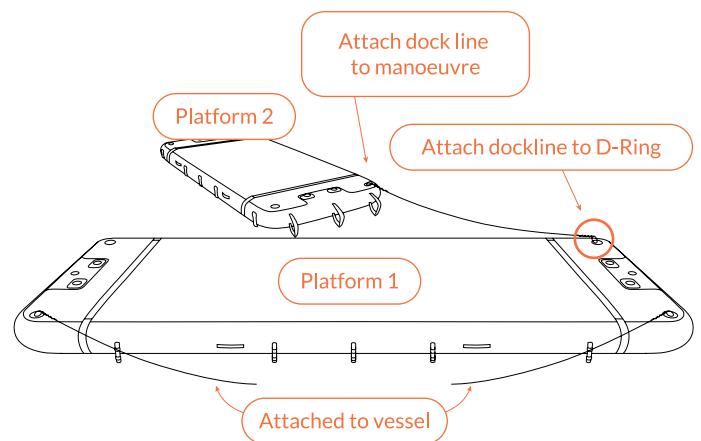

Fig 89 – Platforms secured to each other via a D-rings
2. Manoeuvre Platform 2 to Platform 1 (which is tied to the vessel). Holding on tightly to the dock line that is attached to the D-ring manoeuvre and secure to Platform 1 D-ring using a Bowline (Fig 89), Allow enough length in the line for the Platform to be connected in a T-Shape.